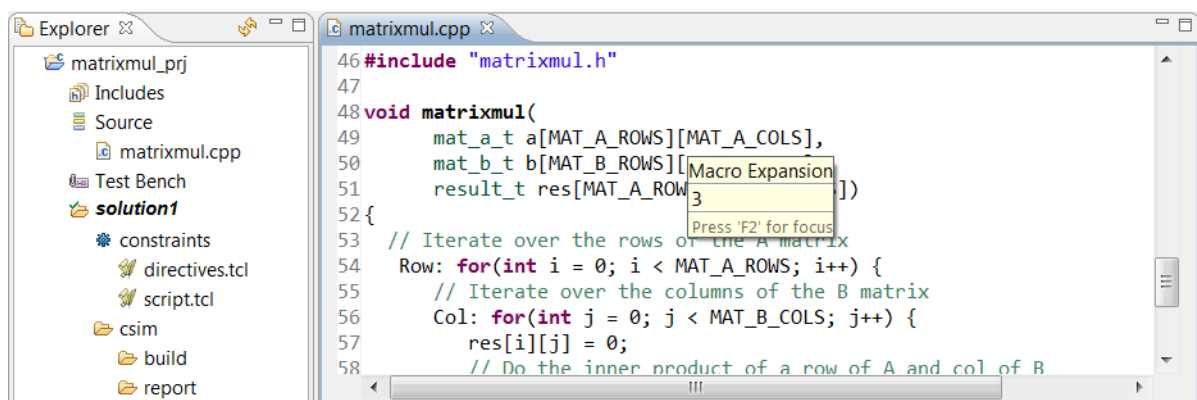

Figure 7-3: Source Code for the Matrix Multiplier
- Expand the **Sources** folder in the **Explorer** pane and double-click `matrixmul.cpp` to view the source code (Figure 7-3).
Scroll down the file to see that the source code has two input arrays, `a` and `b`, and output array `res`. Hold the mouse over the macros (as shown in Figure 7-3) to see that each is three-by-three for a total of nine elements.